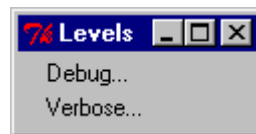

Figure 5-11. The Levels Drop-down
1. *Click* on the Levels option from the appropriate menu. The Levels drop-down appears. Figure 5-11 shows the Levels drop-down menu.